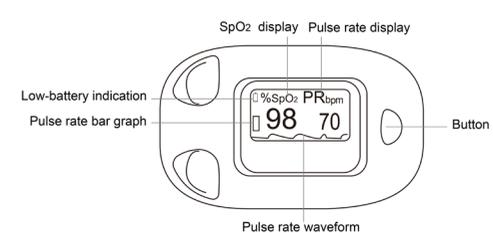

Figure 2 Measurement interface
- Figure 2 Measurement interface